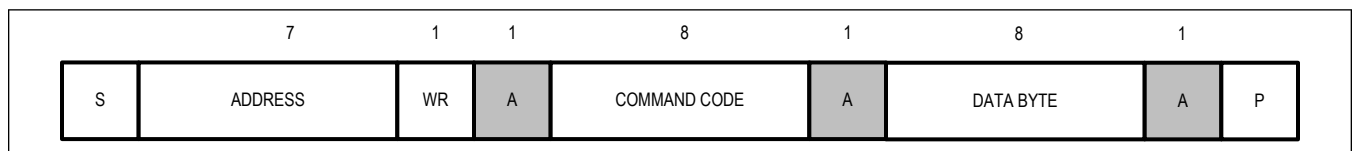

Figure 2. I²C Write
A write operation (Figure 2) begins with the bus master issuing a START (S) condition followed by seven address bits and a write bit (R/W = 0). If the address byte is successfully received, the device (slave) issues an acknowledge (A). The master then writes to the slave and the sequence is terminated by a STOP (P) condition for a single write ope